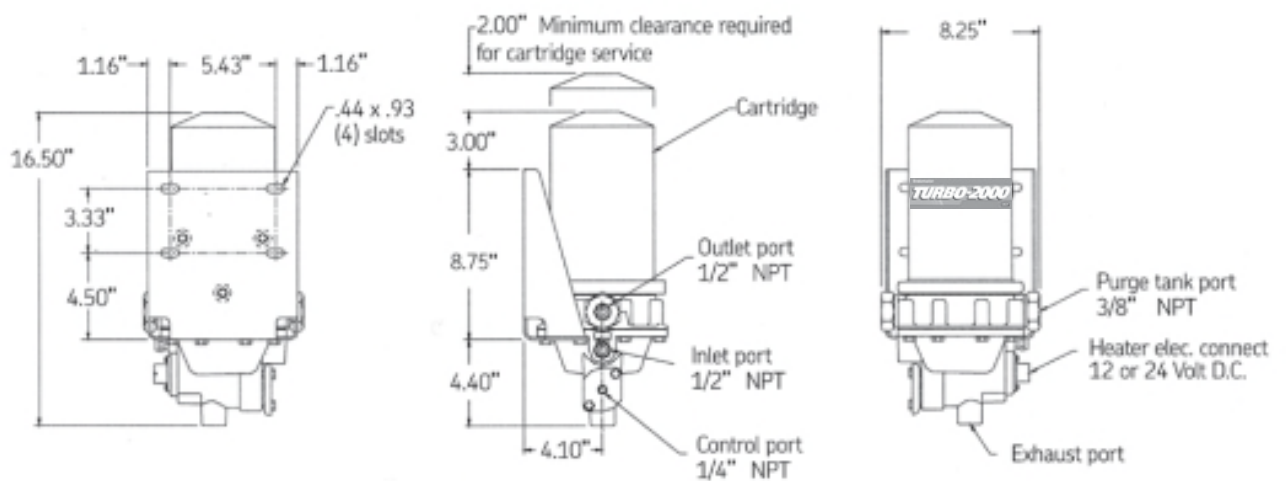

Fig. 1 Unit dimensions
- **Unit dimensions:** (see Fig. 1)